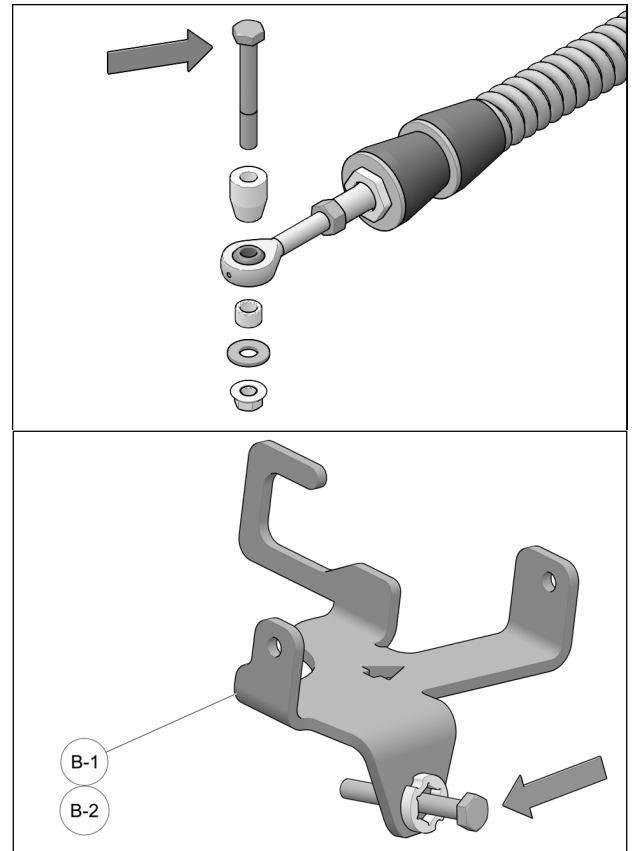

Fig. 3
4. Remove bolt, washers and spacer bushings from rear stabilizing rod end and insert bolt in the rear anchor bracket (**B-1, B-2**) as shown in Fig. 3